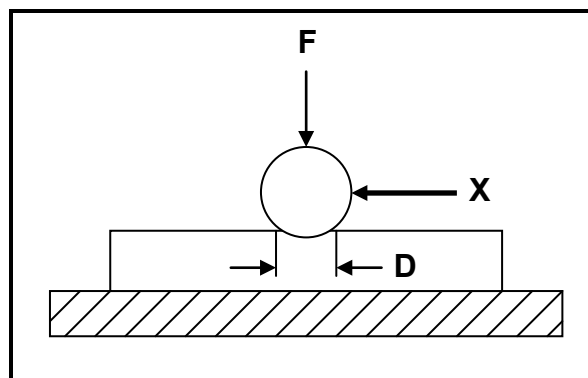

FIGURE 1.1
- 1.3 Petrus uses the Brinell hardness tester to determine the hardness of a test piece. FIGURE 1.1 shows the test piece during the test. Identify part **X**.